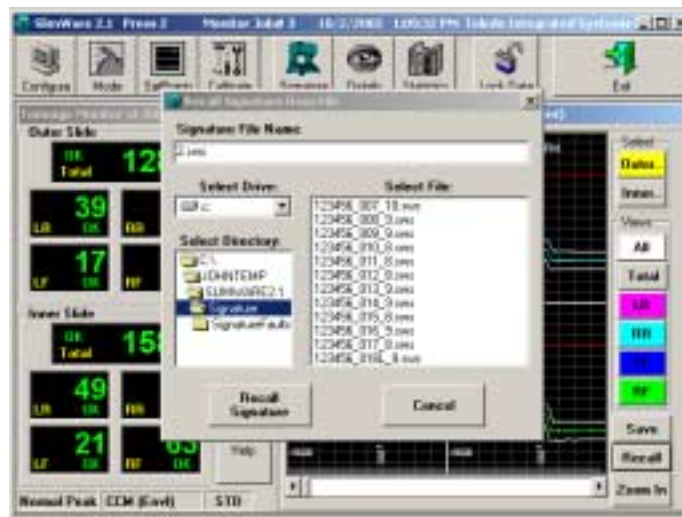

Figure 10.9 - Recall Signature From File Prompt Box
- The **Recall Signature From File** prompt box will be displayed as shown in Figure 10.9. Signatures that were produced and saved using SlimWare, will have the extension **sws** (SlimWare Signature). Select the signature file you wish to open from the **Select File** list box.